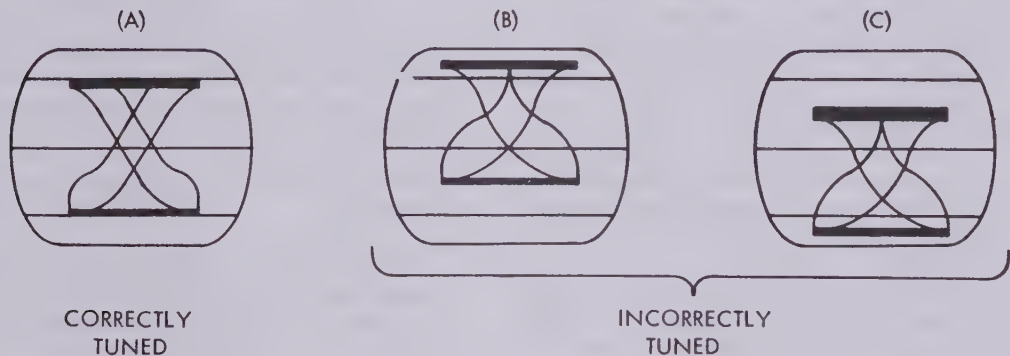

Figure 3-2. Tuning Indicator Patterns
d. INDICATOR PRESENTATIONS. - Figure 3-2 illustrates the tuning indicator displays obtained when the associated receiver is properly tuned (A) and when the associated receiver needs re-tuning (B or C).
(1) SINGLE-RECEIVER OPERATION. - The need for retuning the associated receiver to compensate for frequency drift can be determined by observing the converter tuning indicator pattern
(figure 3-2). If the pattern departs from that in(A) of figure 3-2, retune the receiver.
(2) DIVERSITY OPERATION. - Retuning the associated receivers to compensate for frequency drift is the same as for single-receiver operation. However, to prevent interruption of communication while one of the receivers is being tuned, set the FUNCTION switch of the associated converter to TUNE. During retuning, the other receiver-converter combination will operate the teletype printer. After the receiver has been tuned, set the converter FUNCTION switch to DIVERSITY.
(2) INDICATOR PRESENTATION. - Refer to figure 3-2 for tuning indicator presentations during receiver tuning.
(1) SINGLE-RECEIVER OPERATION. - Either converter may be adjusted for single-receiver operation, as follows:
(A) figure 3-2). There are sometimes two receiver tuning positions that give a proper tuning indication; always select the stronger. Adjust audio output of receiver to 60 milliwatts.
(2) DIVERSITY OPERATION. - Each converter of the AN/URA-17 is adjusted for diversity operation as follows:
Step 7. Tune associated receiver to desired rf signal. Set receiver bandwidth to approximately 800 cps if narrow-shift signals are being received or to approximately 3 kc if wide-shift signals are being received. Tune receiver until strongest beat-note is heard in headphones plugged in receiver headphone jack. Adjust receiver tuning for a symmetrical, vertically centered pattern on tuning indicator (as in (A) figure 3-2). There are sometimes two receiver tuning positions that give a proper tuning indication; always select the stronger. Adjust audio output of receiver to 60 milliwatts.